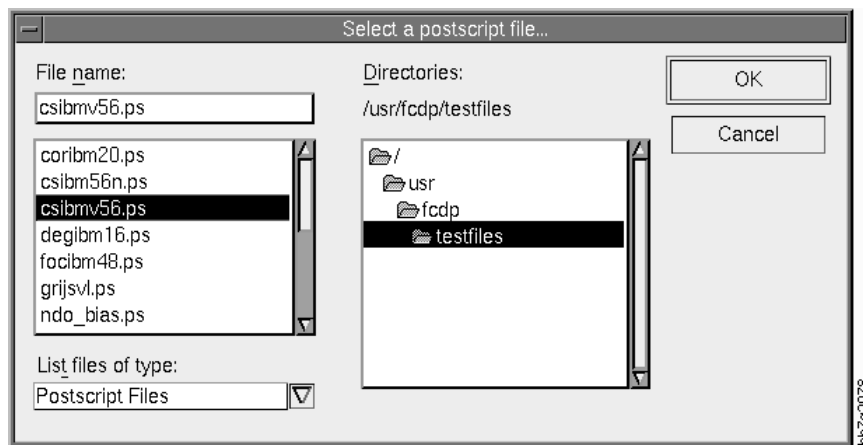

Figure 117. Select a postscript file... Window
- To begin RIPing, click the **Rip Job** pushbutton in the **Image Disk window**. Figure 117, opens.